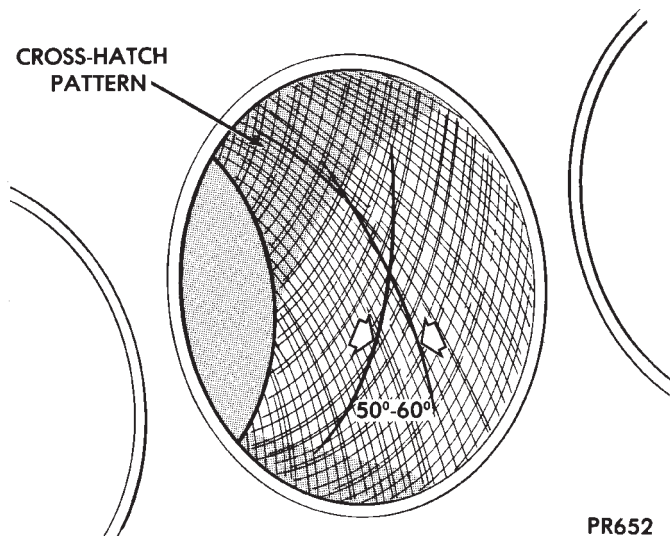

Fig. 2 Cylinder Bore Cross-Hatch Pattern
(1) Used carefully, the cylinder bore resizing hone C-823 equipped with 220 grit stones, is the best tool for this job. In addition to deglazing, it will reduce taper and out-of-round as well as removing light scuffing, scoring or scratches. Usually a few strokes will clean up a bore and maintain the required limits.
(2) Deglazing of the cylinder walls may be done using a cylinder surfacing hone, Tool C-3501, equipped with 280 grit stones, if the cylinder bore is straight and round. 20-60 strokes depending on the bore condition, will be sufficient to provide a satisfactory surface. Inspect cylinder walls after each 20 strokes, using a light honing oil. **Do not use engine or transmission oil, mineral spirits or kerosene.**
(3) Honing should be done by moving the hone up and down fast enough to get a cross-hatch pattern. When hone marks **intersect** at 50-60 degrees, the cross hatch angle is most satisfactory for proper seating of rings (Fig. 2).